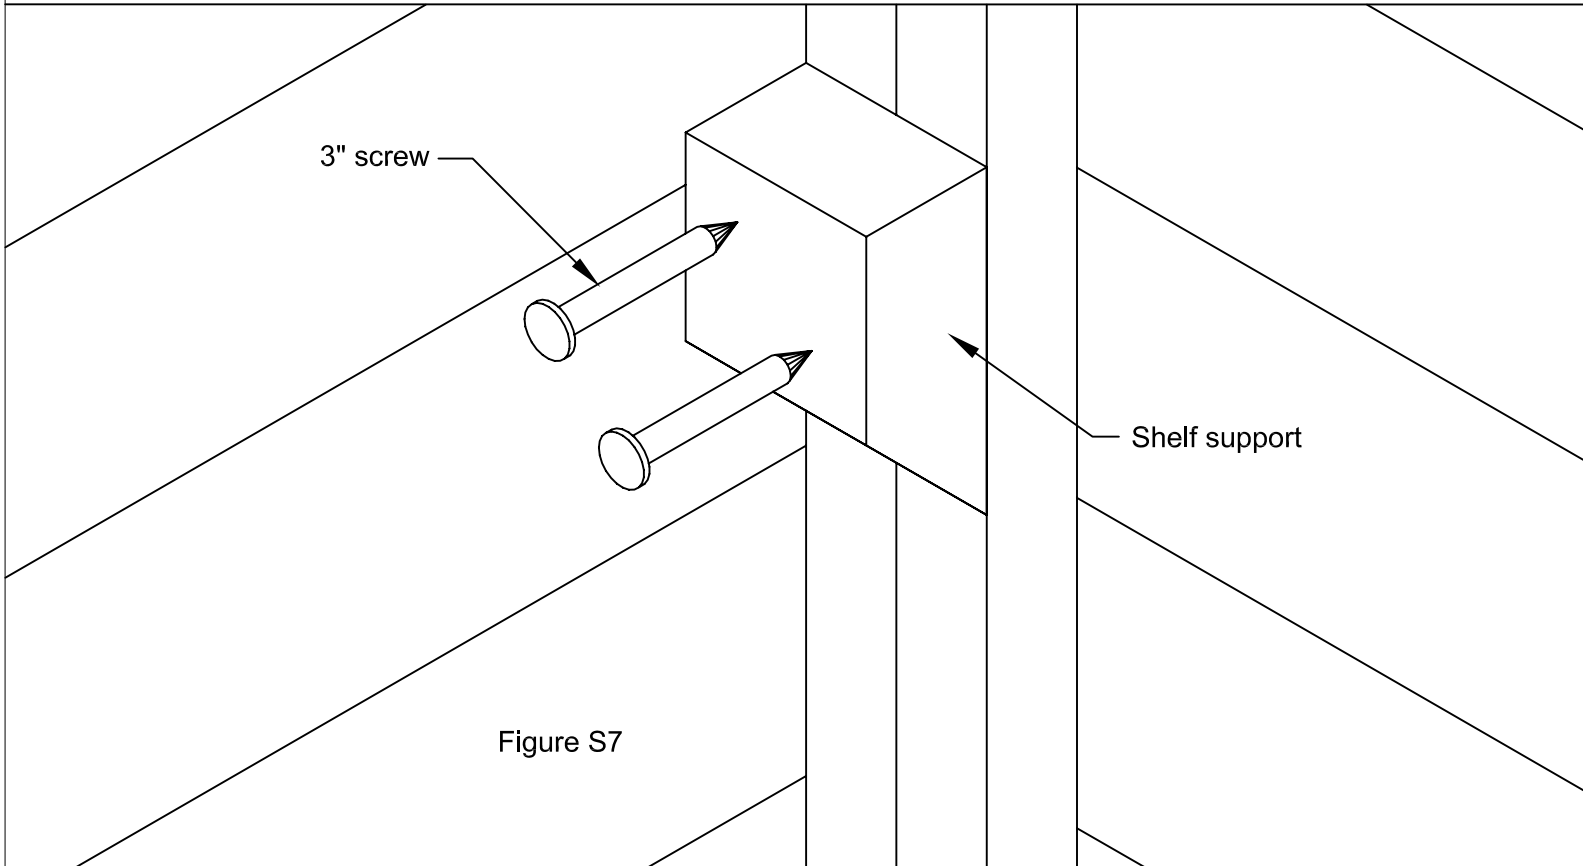

Figure S7
8. With a 2 - 3" screw mount the shelf support at one of the corner, see Figure S7.